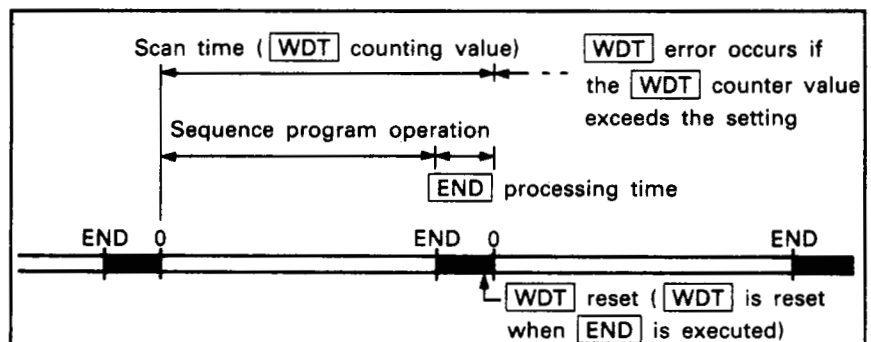

Fig. 4.7 Resetting Watch Dog Timer
- (c) In the **RUN** state, the processing illustrated in Fig. 4.7 is repeated until the operation state is changed from **RUN** to **STOP** or **PAUSE**.